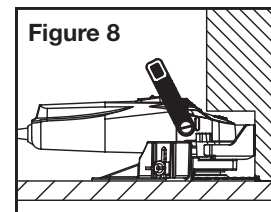

Figure 8
- Turn the handle away from the toe kick for undercutting toe spaces (see Figure 8).